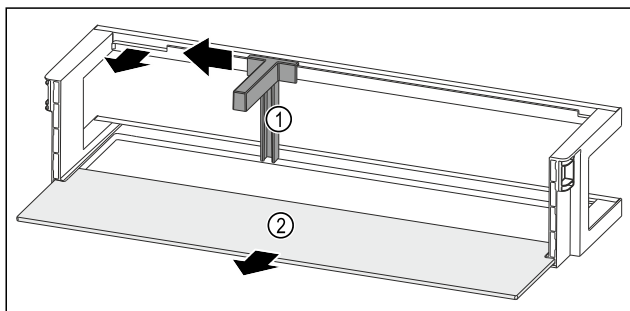

Fig. 196 Door rack with bottle holder and shelf
- ▶ Slide the bottle holder Fig. 196 (1) to the side as far as the recess.
- ▶ Remove the bottle holder Fig. 196 (1).
- ▶ Remove the shelf Fig. 196 (2).